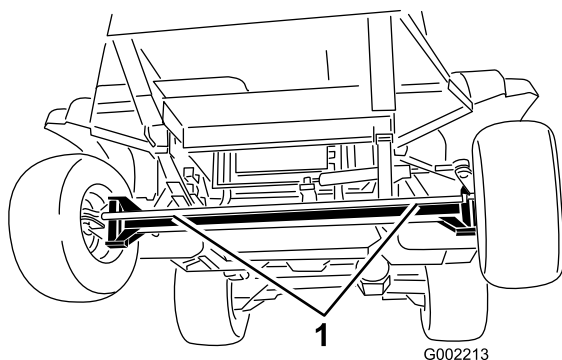
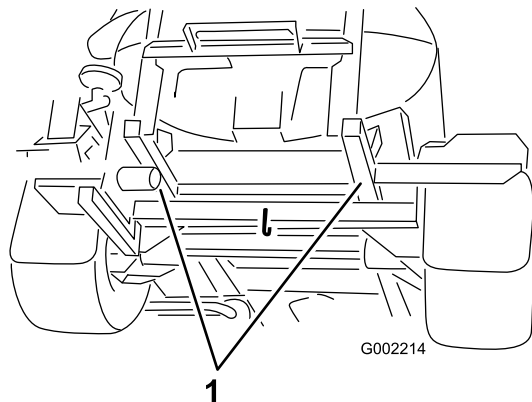

Figure 53
Figure 54
4. Affix a tow line to the frame; refer to the front and rear towing points (Figure 53 and Figure 54).